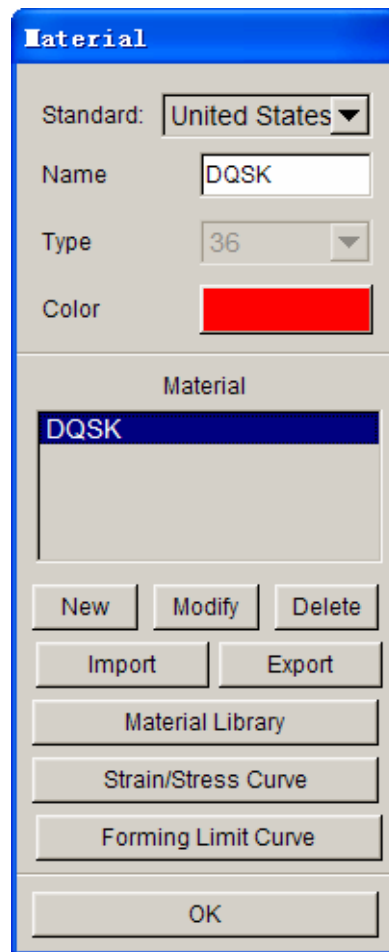

Figure 4.32: Define material dialog box
- 7) Click “OK” to return to the Material dialogue window, then user may find the selected material type has already been added to Material List. See figure 4.32.